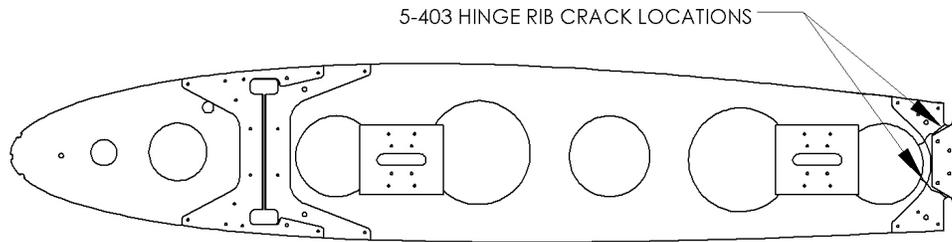

Figure 3, Hinge Rib Crack Locations
5. Visually inspect hinge rib and rear spar gusset for cracks as shown in figure 3 (3 locations per wing). The cracks originate at the rear spar relief and propagate diagonally toward the rib lightening hole. The cracks may also originate from rivet locations. Using a mirror inspect the opposite side of the hinge rib and gusset for cracks.